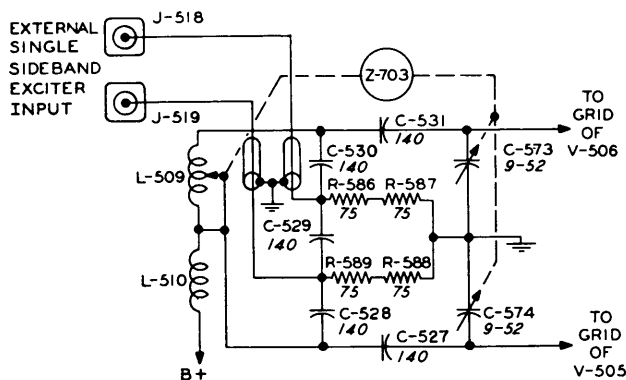

Figure 2-26. Simplified Schematic - RF Unit T-225A/FRT-5, Single Side-band Excitation Input
1. PA CONVERSION FOR LINEAR AMPLIFICATION. — The circuit that is normally employed at the grids of the power amplifier is designed to present a high impedance load to the type 4-400A driver tube and to deliver balanced push-pull voltage to the relatively low impedance grid circuit of the PA. This is not a suitable circuit for accepting drive from an external exciter such as the Western Electric type D-156000 single side-band suppressed carrier transmitter. Therefore the power amplifier must be modified slightly for such operation. Figure 2-26 is a simplified schematic of the power amplifier input circuit following conversion for linear amplifier operation.